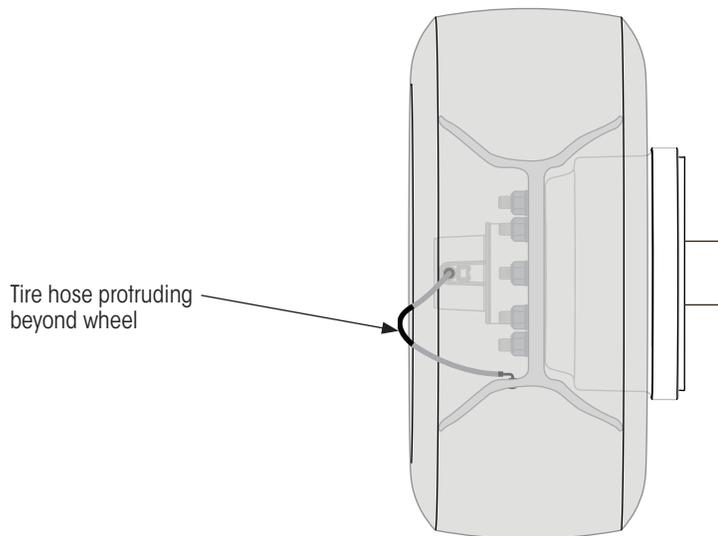
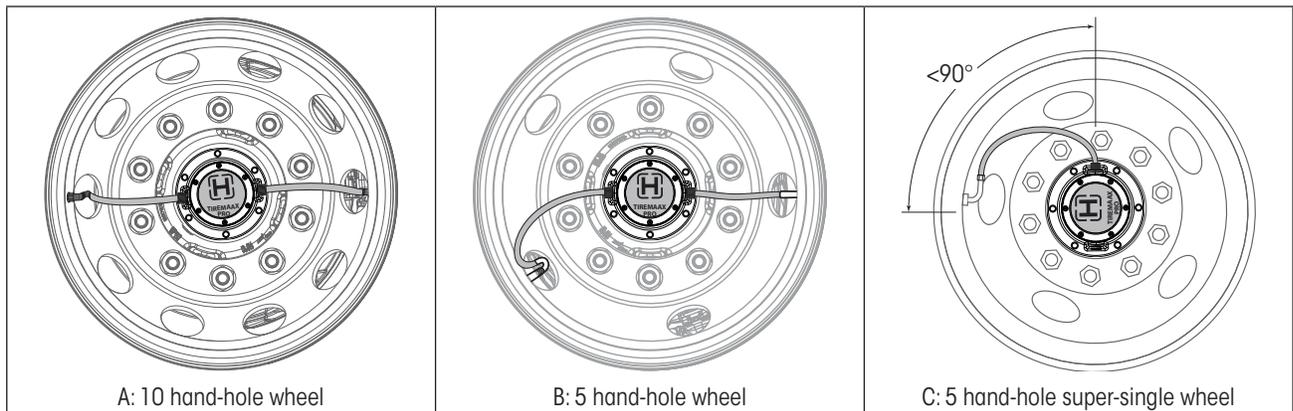

Figure 23: Improper tire hose installation (super single shown)
Figure 24: Properly clocking hubcap and wheels to prevent tire hose damage during operation
6. **Orient** hubcap for proper tire hose routing. **Aligning** the tire hose ports so they are **BETWEEN** two wheel mounting studs will generally provide the best tire hose routing, Figure 24 on page 21.
- Using two lug nuts, **mount** wheel on hub with the rotation clocked for best tire hose placement (Figure 24).
NOTICE The wheel must be properly “clocked” to the hubcap to prevent the hoses from rubbing on the wheel (Figure 24) and extending beyond hubcap.
- Loosely connect** other end of tire hose(s) (Figure 26 for dual or Figure 27 for super-single) to the outlet port of the hubcap and check to ensure hose(s) meet criteria of Figure 23 and Figure 24.
(Refer to Figure 23 and Figure 24 on page 21 for examples):
- A. Route tire hoses inside rim area (Figure 23).
- B. To further restrain tire hoses within rim area and take up slack, "clock" wheel rotation relative to hubcap position (Figure 24).
- E. Super single wheels, view C of Figure 24 and Figure 27, require only one tire hose. Positioning the hubcap port 90° from the valve stem provides optimum fit. The unused port will remain plugged.